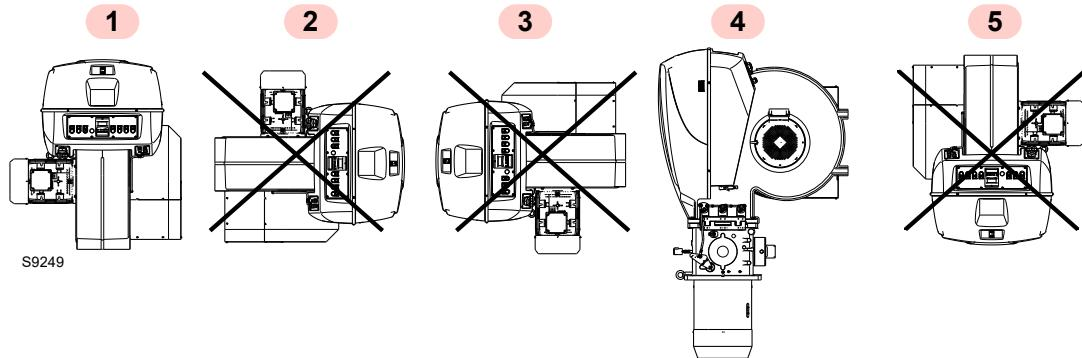

Fig. 11
- The burner is designed to work only in positions **1** and **4** (Fig. 11).